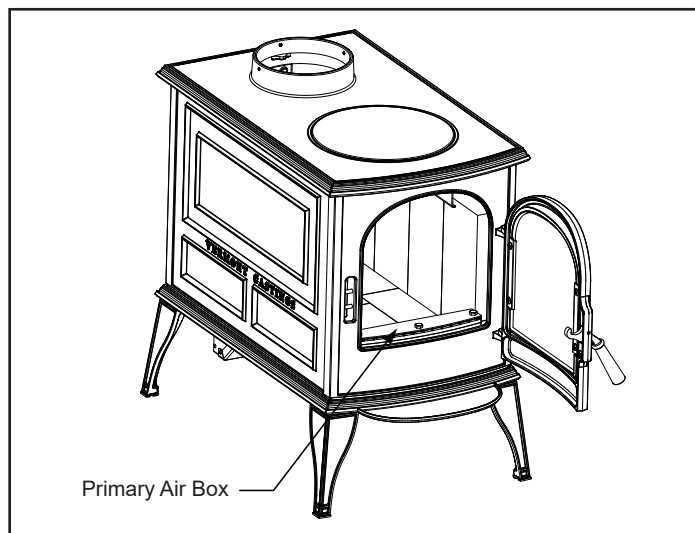

Figure 2.2
1. Use a fireplace tool to break up the charcoal. Pull the charcoal from the back to the front. This will encourage efficient combustion as the fuel burns from front to rear. Take care, however, not to block the primary air box with coals or ash, Figure 2.2.
Remove ash before it reaches the top of the primary air box, Figure 2.2. Check the level at least once a day, and before each re-fueling.